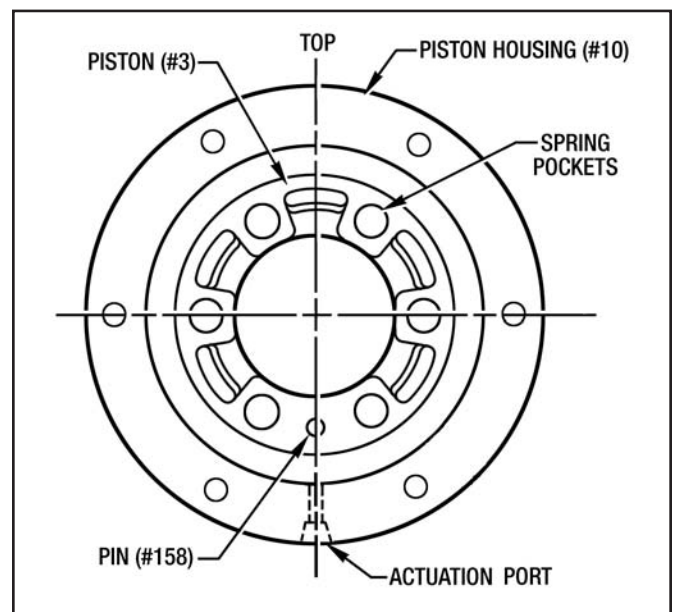

Figure 6.5 - Piston and Piston Housing Orientation
8. Place the (6) Springs (#36) into the spring pockets.
9. Install the (2) O-Rings (#40) and the Liner (#43) into the Piston groove after lubricating them with white grease.
11. Place the Piston (#3) into the Piston Housing (#10) aligning the Dowel Pin (#158) at the bottom as shown in *Figure 6.5*.